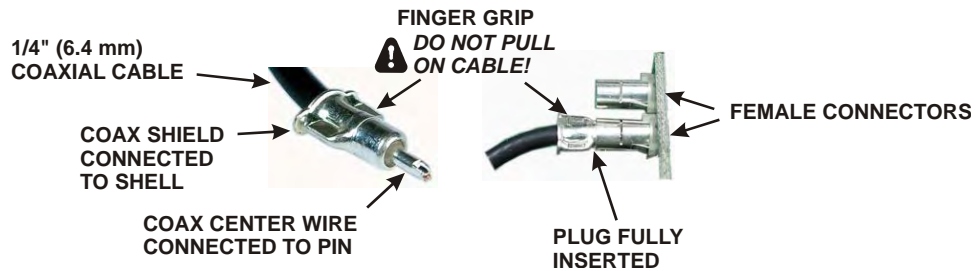

Figure 62. TMP Cable Connectors.
□ Locate the three TMP cables. They are 1/4" (6.4mm) diameter coaxial cables with connectors at each end as shown in Figure 62.
Install the three TMP cables between connectors on the KREF3 board, the main RF board and the KSYN3 board as follows. Handle the connectors by the finger-grip area shown in Figure 62, especially if you unplug a connector. **Do not pull on the coaxial cable to unplug a connector!** When mating the connectors, be sure the plugs are fully inserted as shown in Figure 62. To make the connectors easier to mate, first be sure the center pin is started in the socket, then you may twist the connector back and forth while holding it by the metal ears if needed to seat it fully as shown in Figure 62.